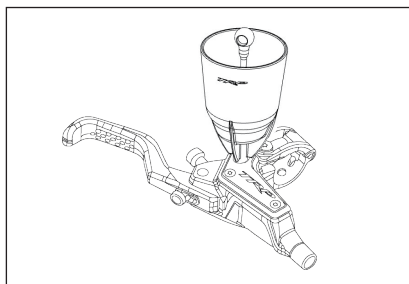
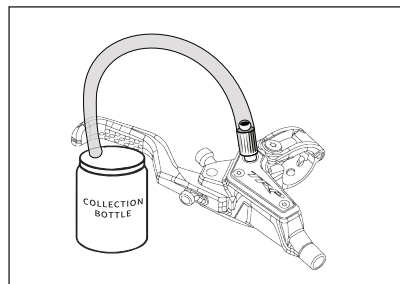

Fig 6
Fig 7
- Use a T15 Torx wrench to remove the bleed screw from the lever and attach the TRP bleed funnel. (Fig. 6) A collection bottle or bag will also work. (Fig. 7)